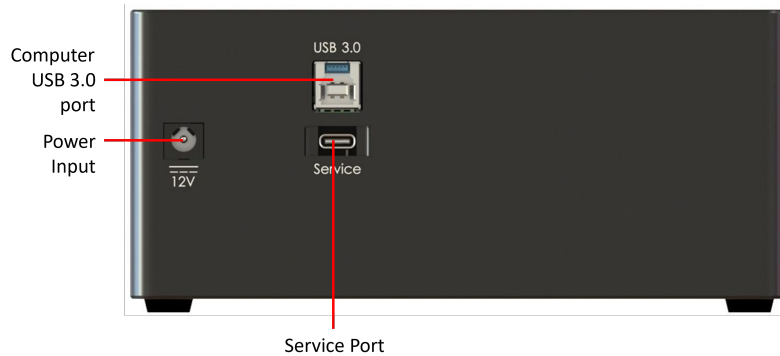

Figure 1.7: *FluoPulse™ Console back*
8. **USB 3.0 Port:** The console connects to the computer by a **USB 3** cable. At the back of the console, there are two USB connectors as seen in Figure 1.7. The upper, type B **USB 3.0** connector must be used.
9. **Service USB Port:** This USB-C port will only be used when the firmware is reprogrammed (Fig. 1.7). For proper reprogramming, the **Service Switch** should also be set to “P” when using this port. During regular usage no cable should be connected to the USB-C port.
- The *Console* and the *Cube* share a single 12V, 3A **Power Supply** using the **Y-branching cable**. Before connecting, confirm that the power switches on the *Cube* and *Console* are in the OFF position, then plug each connector of the branching Y-cable to the **12V power input** at the back of each device (*Cube*: Fig. 1.4, *Console*: Fig. 1.7).